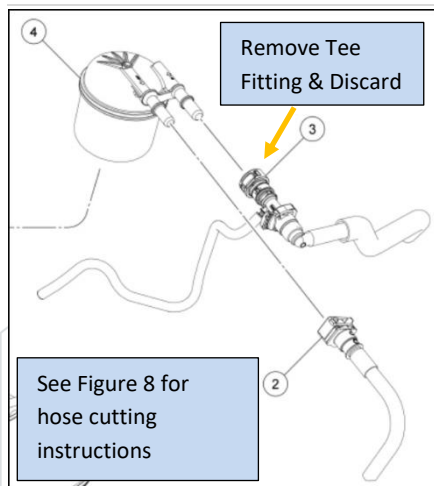
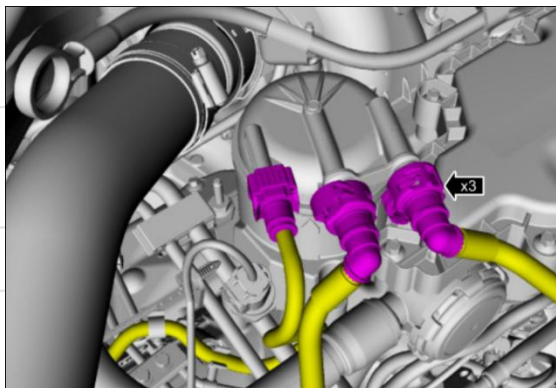

Figure 2: 2011-2016 2-port filter
Figure 3: 2017-2026 3-port filter
- a. On 2011-2016, disconnect the 'Tee Fitting' labeled as "3" in Figure 2 from both the fuel filter AND the tank feed line. This Tee will be cut off and discarded. The injector return hose will be connected to the provided S&S Leak Prevention Fitting converting the 2-Port to a 3-Port like the 2017-2026 model years shown (Figure 3).